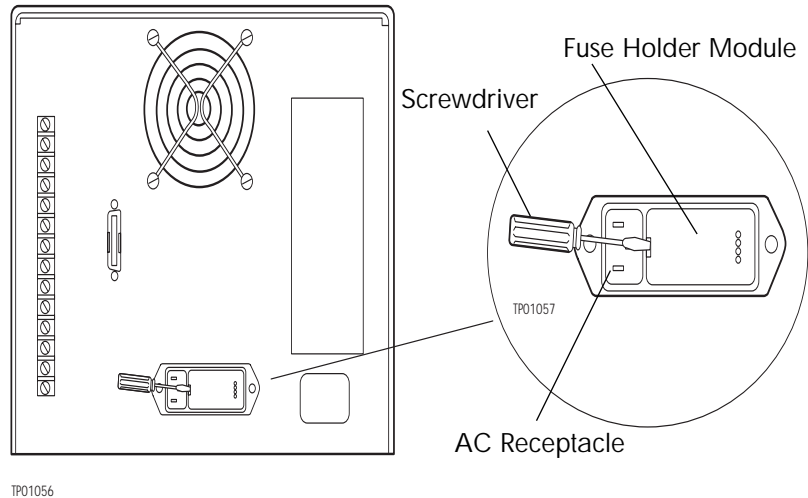

Figure 2-2 Voltage Selection
1. Remove the fuse holder module by inserting a screwdriver as shown in (Figure 2-2).